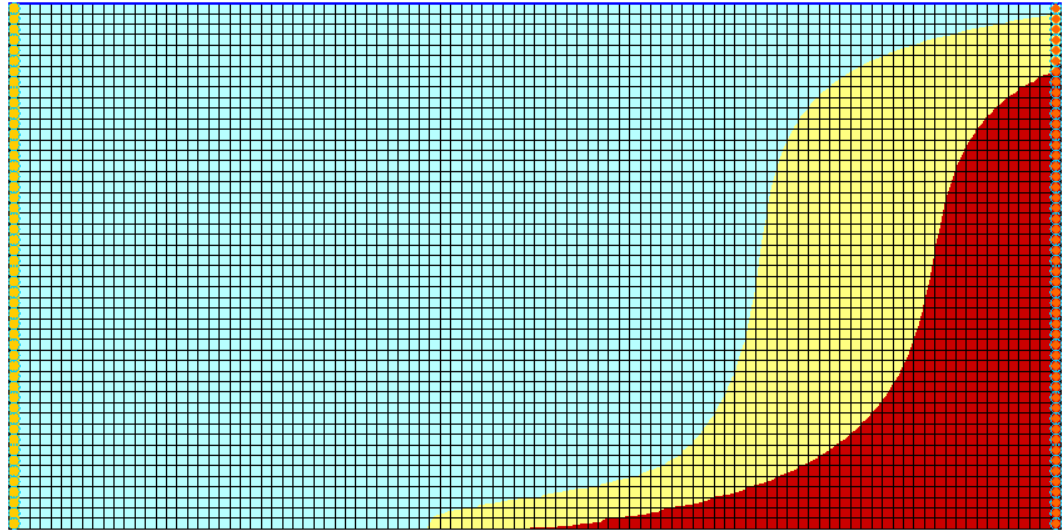

Figure 4 Case1 salt concentration – time step 16
1. Under “ case1 (MT3DMS)”, in the “ Salt” dataset, view time step 16 (value of “8000”) (Figure 4).